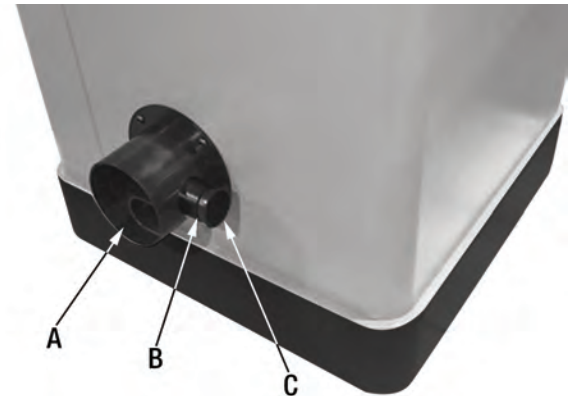

FIGURE 21
This Cabinet Saw comes with a 4" dust chute (A) Fig.21 on the right side of the machine allowing for the connection to a dust collector.